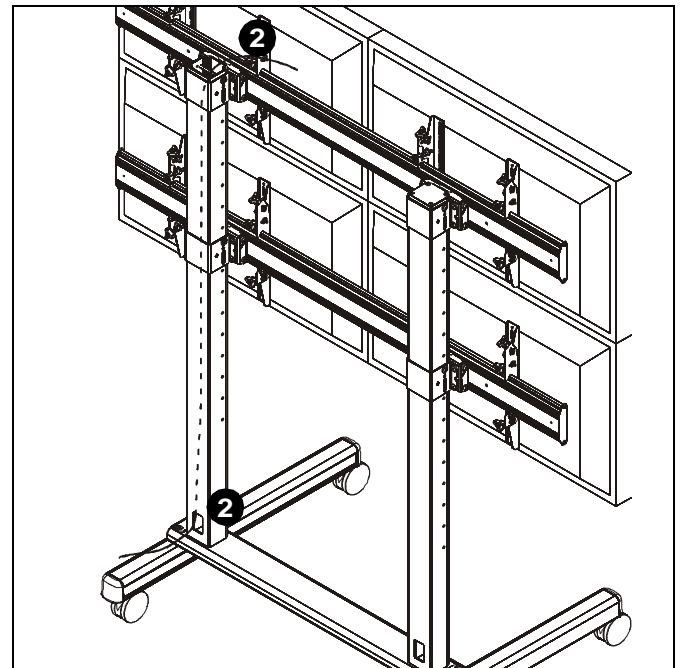

Figure 22
2. Cables may be routed through tops of columns and out through the back cable management hole. (See Figure 22)